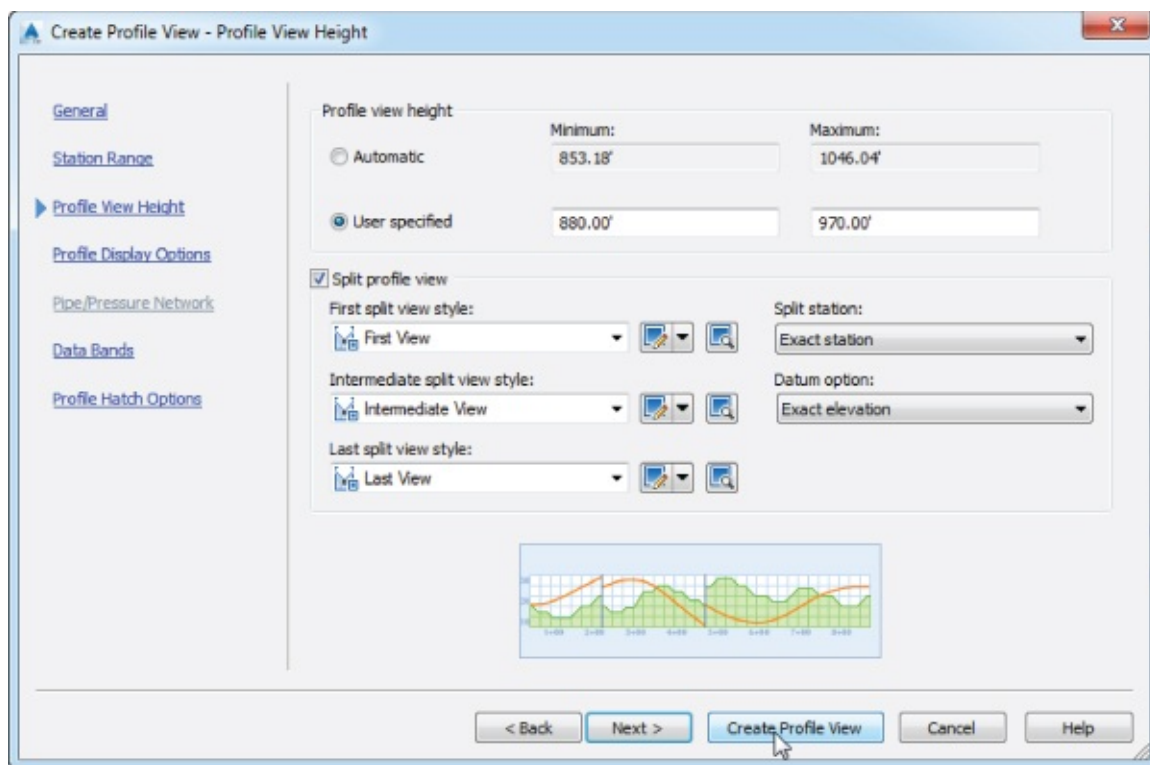

Figure 7.40 Split Profile View settings
5. In the Profile View Height field, select the User Specified option and set the values to **880** and **970** (or **268** and **294** for metric users), as shown in Figure 7.40.
6. Check the Split Profile View option and set the view styles to First View, Intermediate View, and Last View, as shown in Figure 7.40.